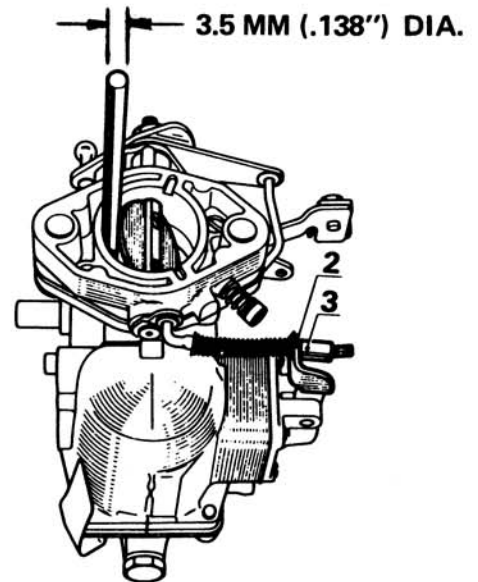

FIGURE 68. ADJUSTING PUMP LEVER
To adjust, push the pump lever (2) up to the stop, then turn nut (3) until it just touches the lever. (Figure 68).